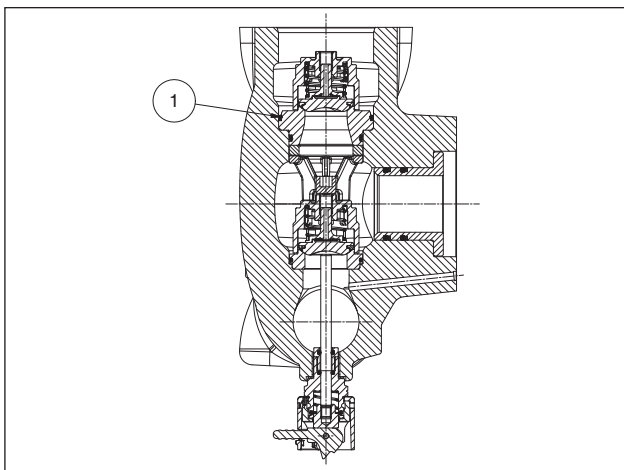

Fig. 128
Pay special attention to fitting the O-ring shown in pos. ①, Fig. 128. Use a special tool code 27516000 to prevent the O-ring getting cut during insertion.